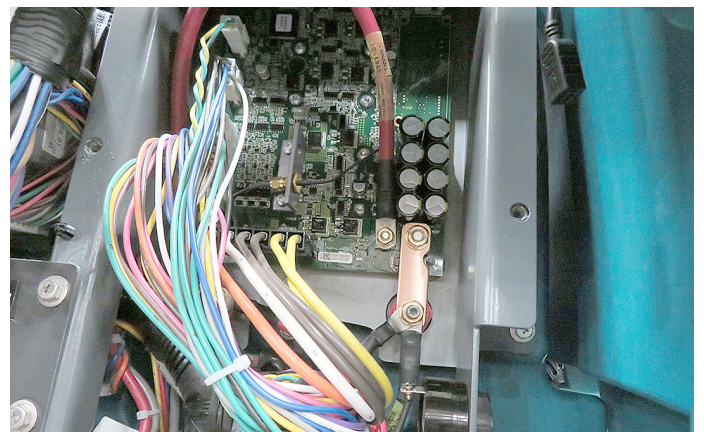

Fig. 9
4. Reconnect the wire connectors, bus-bar and red cable to the new IRIS circuit board (Figure 9). Torque specs: 9 Nm (6.6 lb-ft)